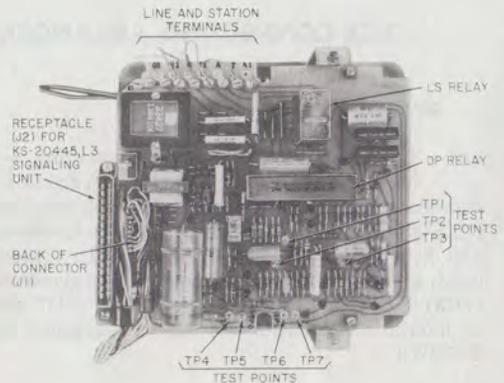
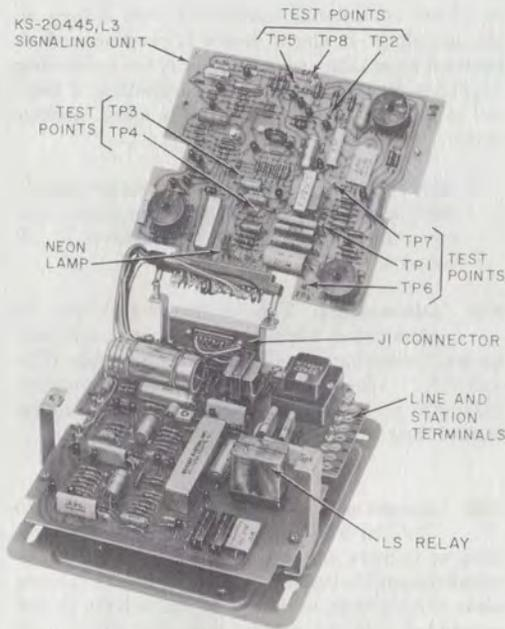

Fig. 1—KS-20445, List 1 Control Unit, CAU, Cover Removed, Test Points
Fig. 2—KS-20445, List 2 Control Unit, Test Points on List 3 Signaling Unit
KS-20445, List 1 Control Unit, CAU, (Fig. 1)
KS-20445, List 2 Control Unit, SU4 (CAU and SU3, Fig. 2)
- (e) Attach plug from customer's device into receptacle (J1) at the bottom of the unit (Fig. 2).
1	Disconnect customer plug (see Fig. 2).
4a	If List 3 signaling unit is provided— Loosen the two retaining screws and swing signaling unit on its hinge in order to view LS relay (Fig. 2).
5	Connect one 1013A hand test set, or equivalent (with switch in MON position), cord clip across TP4 and TP5, and the other clip across TP6 and TP7 (Fig. 1).
14a	If List 3 signaling unit is provided— Leave one 1013A, or equivalent, hand test set clip across TP4 and TP5 on List 1 unit (Fig. 1). The other clip will be used to test the control unit functions by probing test points on List 3 signaling unit (Fig. 2). Note: Read Steps 15a and 16a before proceeding with Step 15a.